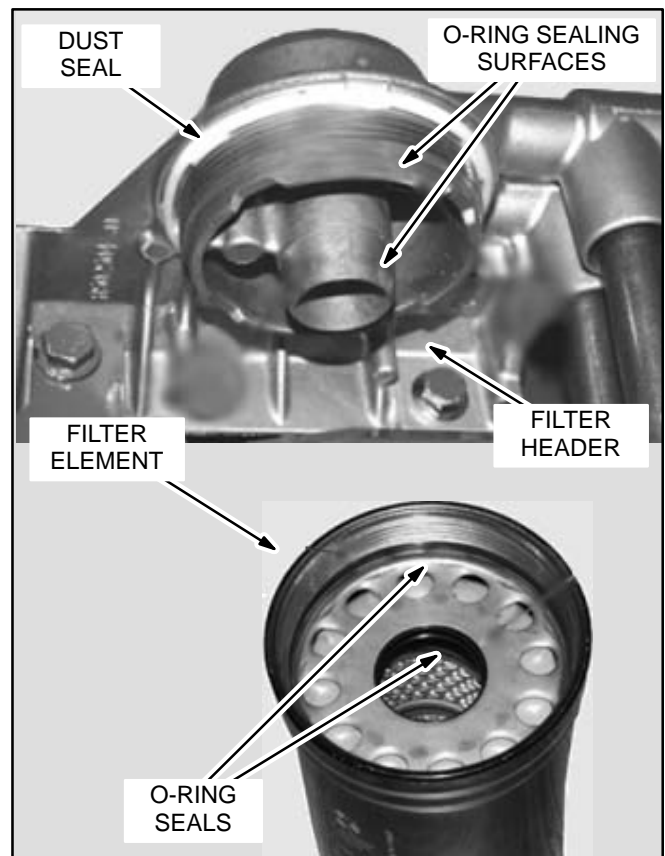

FIGURE 4-4. OIL FILTER
4. Unscrew the oil filter element (Figure 4-4) using a suitable filter wrench and discard the filter.